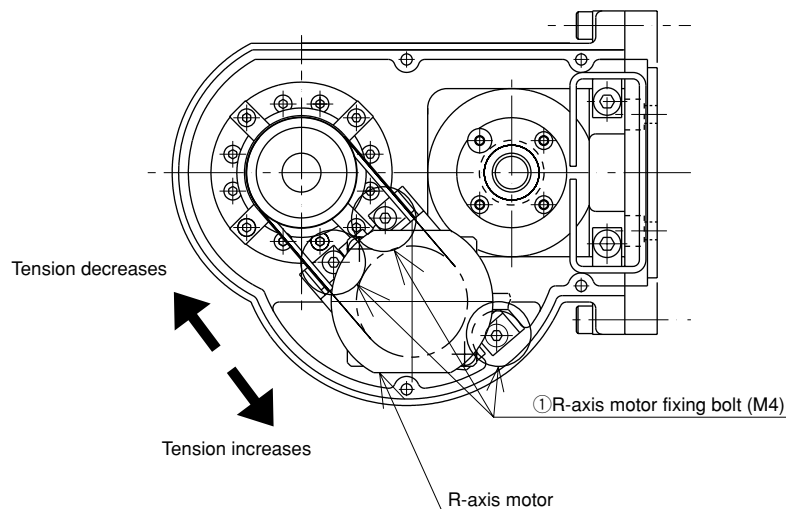

Fig. 11-24 ZRS belt tension
- 6) Loosen the M4 bolt ① (three positions) shown in Fig. 11-24.